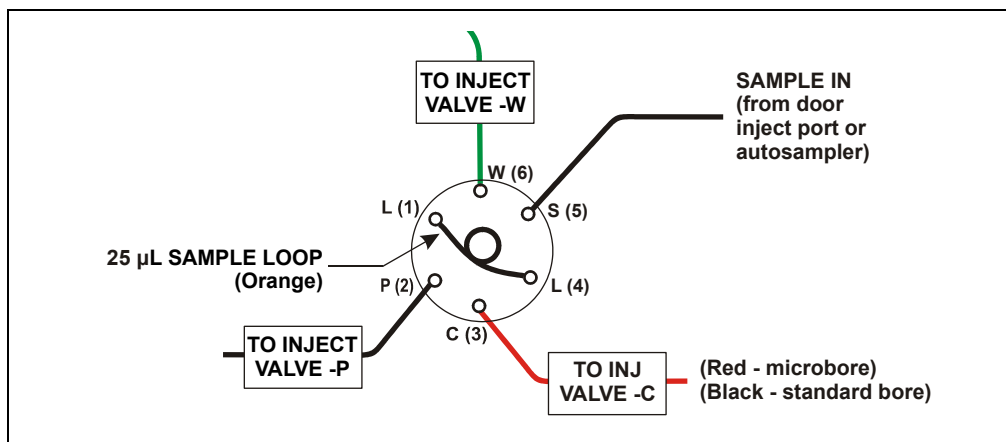

Figure 2-57. Injection Valve Plumbing (6-Port Valve)
Figure 2-57 shows the injection valve connections for the 6-port valve. The injection valve is plumbed at the factory with all tubing and fittings for connection to the pump, sample loading port, column, and waste. A 25 μ L PEEK sample loop (P/N 042857) is installed between ports L (1) and L (4).